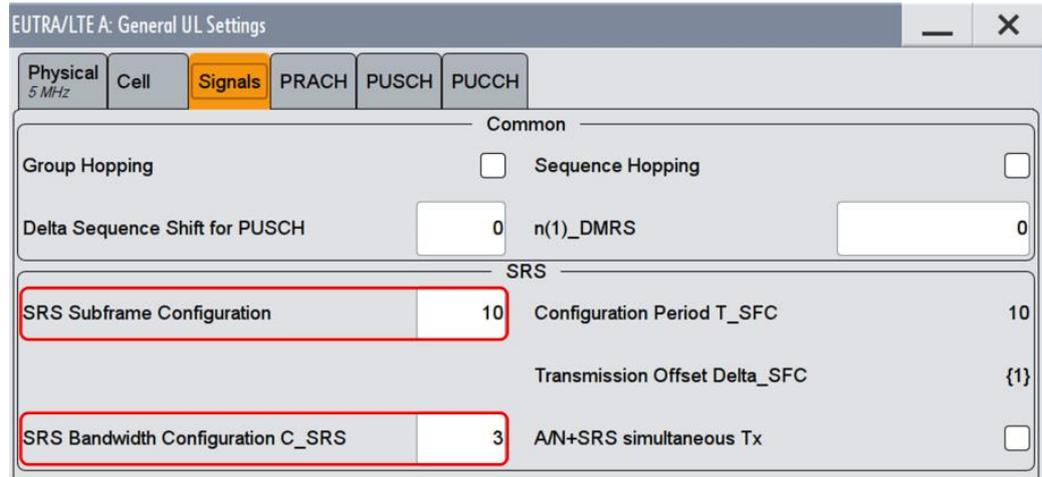

Fig. 3-58: Setting SRS basic parameters. Both parameters determine the length of the SRS sequence according to [3].
- In the General UL Settings, set **SRS Subframe Configuration** to 10 and **SRS Bandwidth Configuration C_SRS** according to Table 3-33 (example for 5 MHz: 3) (Fig. 3-58)